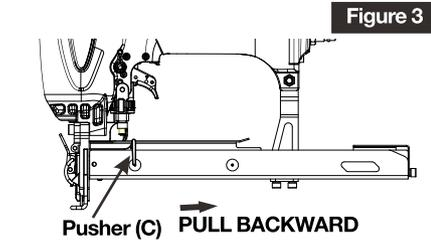

Figure 3
3. Pull the Pusher (C) backward to the end of the magazine. (See Figure 3 & 4)